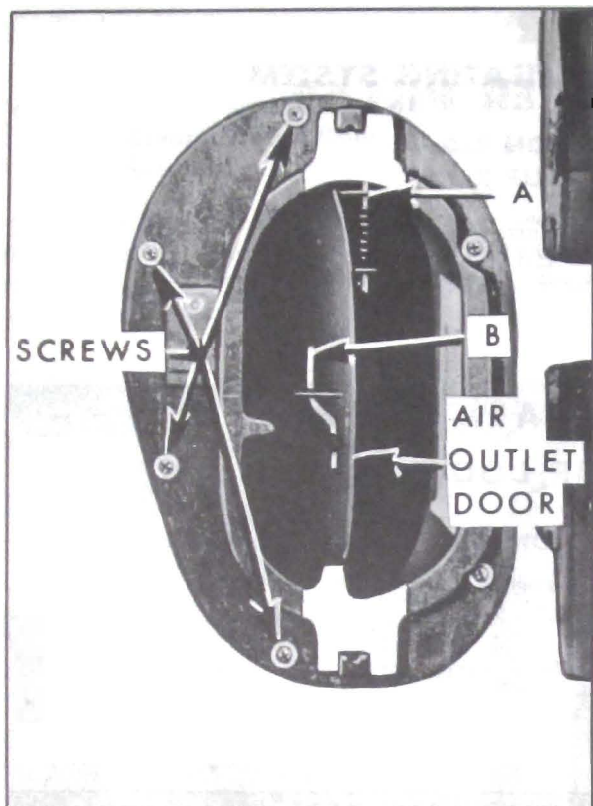

Figure 1-44—Air Outlet and Door
2. Remove screws securing outlet to shroud panel, disengage cable from pin, on door, and remove outlet. See Figure 1-44.
2. Remove end control cable from pin at "B" (Figure 1-44).